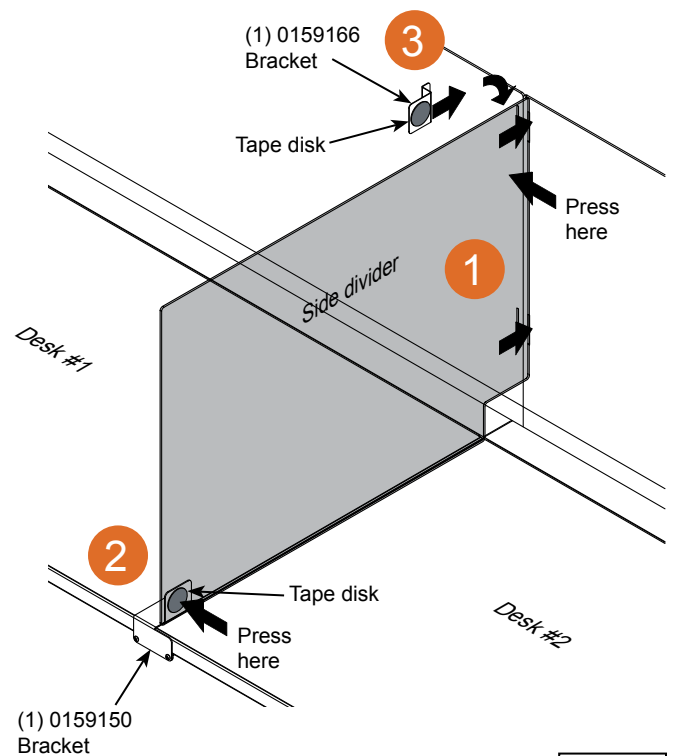

Figure 4.2
5. Apply one tape disk to the right side of the 0159150 and 0159166 brackets. Press and hold to each bracket for 30 seconds to secure. **Figure 4.2.**